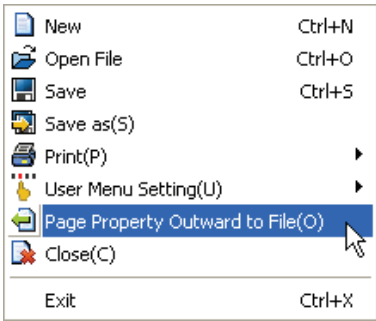

Figure 1-39
Step 1. Click **File (F) > Page Property Outward to File** (Figure 1-39).